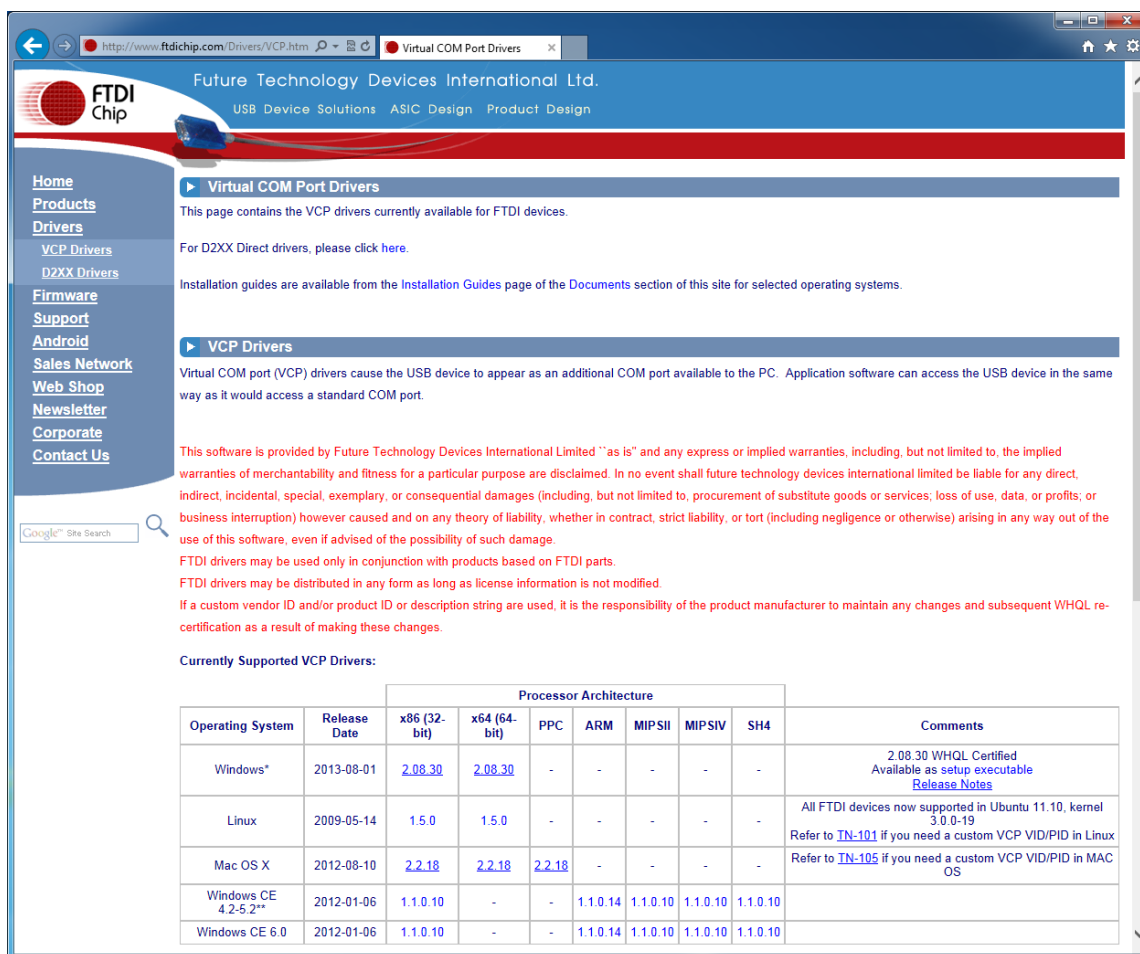

Figure 1-3 USB Serial Converter Driver Download
1. The USB Serial Converter drivers for the Programming Dock can be downloaded from the FTDI Chip Drivers webpage (see Figure 1-3). Download and install the driver to match your operating system.